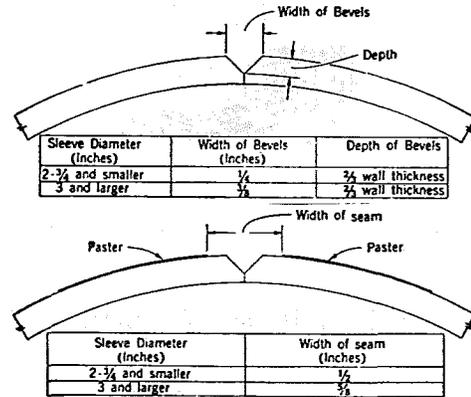
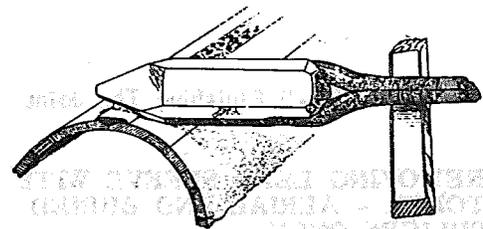

Figure 15-1
Figure 16-1 -- Running A Seam
- (b) 10.09 -- revised -- Note remains - add Fig. 15-1
- (c) 10.10 -- add (7) and (8)
- (d) 10.11 -- (3a) add Fig. 16-1
10.09 Open the split in the sleeve until it is wide enough to facilitate beveling or to allow the sleeve to be slipped over the cable. Bevel the split with a shave hook or rasp as illustrated in Fig. 15. Use the measurements shown in Fig. 15-1. Coat the beveled area with stearine.
10.10 (7) Clean the surface adjacent to the seam with a shave hook or carding brush. Place cable pasters parallel to the seam so that the width will be in accordance with the tables in Fig. 15-1.